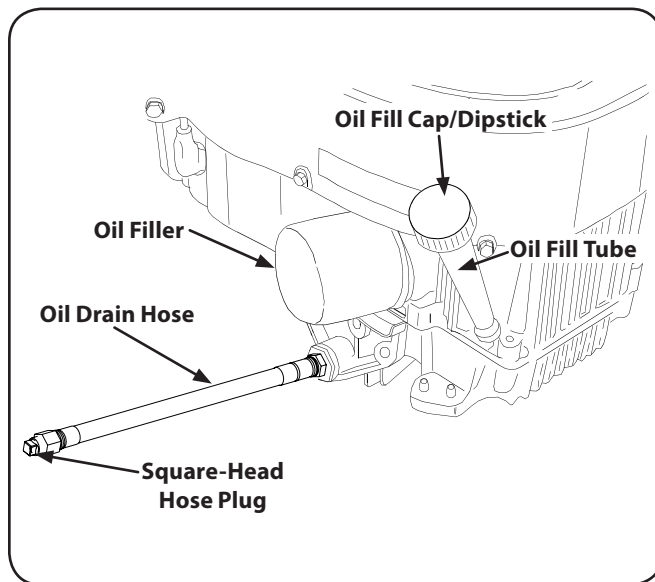

Figure 6-1
2. Locate the oil drain valve on the right side of the engine. See Figure 6-1.
4. While holding the free end of the oil drain hose over the oil collection container, unscrew the square head hose plug from the end of the hose. See Figure 6-1. Drain the engine oil into the collection container.